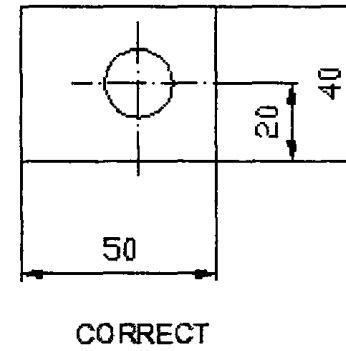

Figure 2 Placing the dimension outside view.
5. As far as possible dimensions should be placed outside the view (Fig.2).